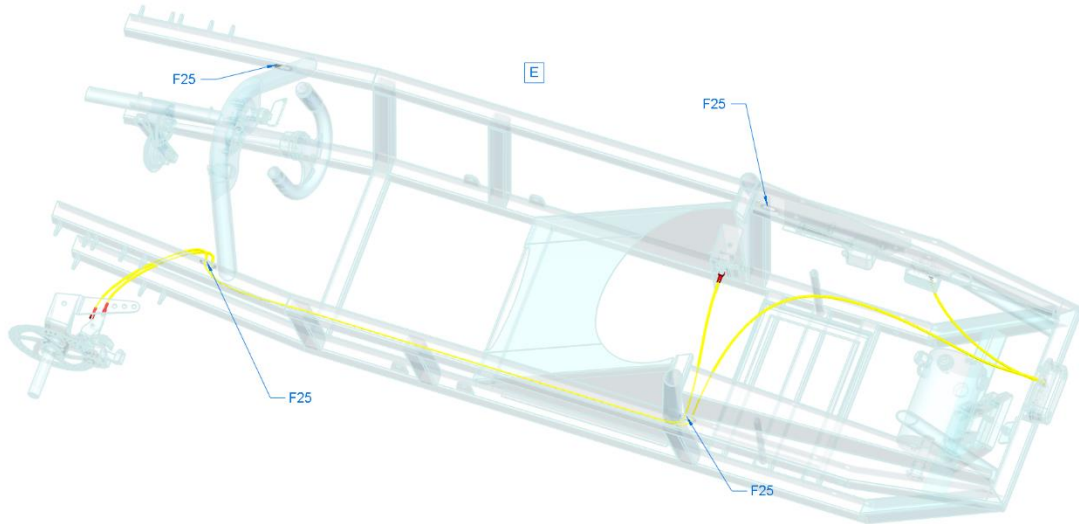

Figure 6.4.12
- i. Use the smaller spiral wire tubing to bundle each pair of wires by color. You will need to cut this tubing. The Green bundle is in Figure 6.4.9. The blue bundle is in Figure 6.4.11 and the yellow bundle is in Figure 6.4.12.
- iv. Yellow connector O: Strip the bare end of the wire and insert it into the black screw terminal located inside the brake light. You will need to insert the wire through the back of the black light cover then unscrew the outer screw, insert the bare wire and tighten the screw. The other end connects to the left terminal of the Joining Block. See Figure 6.4.12